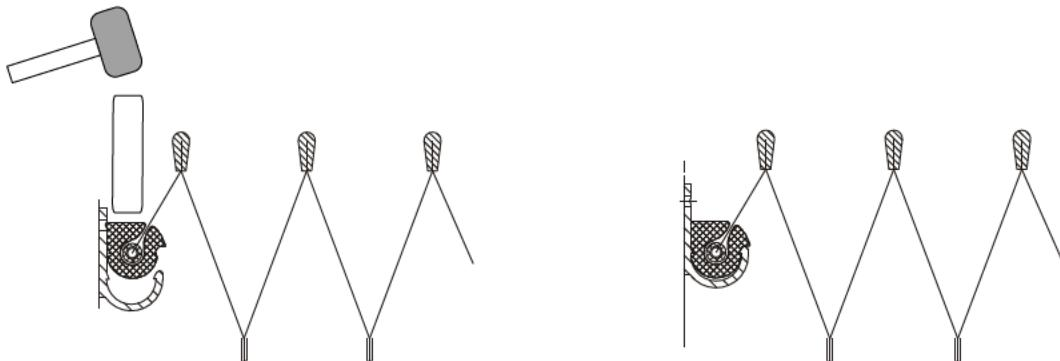

Figure 7-151: Mounting the Bellow in the Suspension Frame
3. Place the folding bellows accurately centered into the suspension frame and carefully hammer the end ply with integrated wire rope and rubber profile around the entire contour of the suspension frame using a PVC Hammer and a block of wood/plastic (or similar). See Figure 7-151.